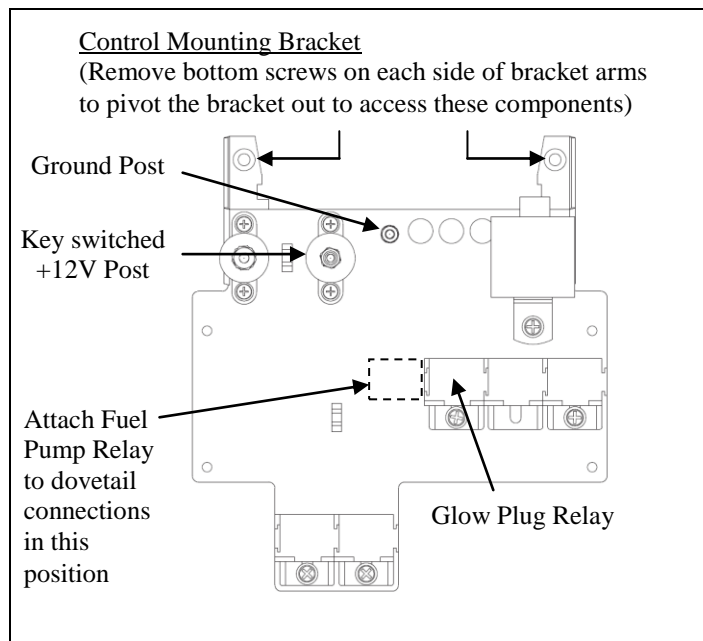

Figure 2 - Control Mount Assembly D600003/4
1. The control mount assembly is located directly beside the battery. Unscrew the two lower screws on each side on the control panel to swing down the control mount assembly. Figure 2.